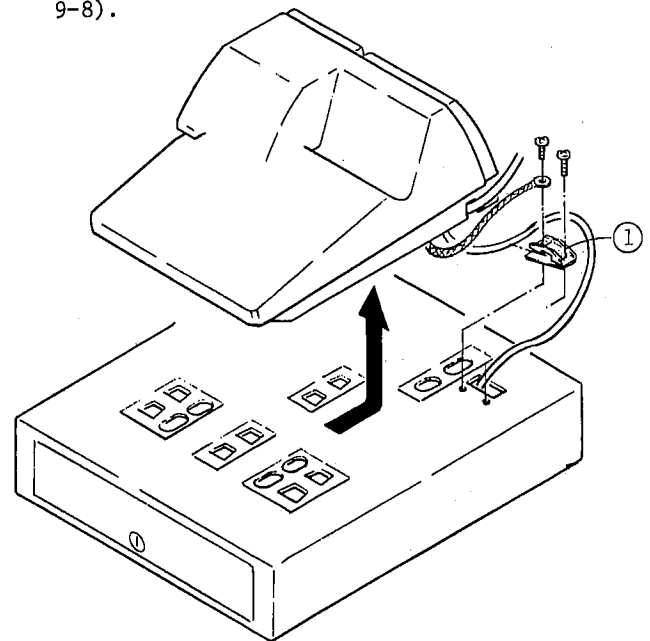

Fig. 9-8
- 3) Remove the ground wire found on the upper side of the drawer and remove the clamp ① that holds the drawer cable. Unfasten the drawer connector from the main body and completely isolate the drawer from the main body (Fig. 9-8).